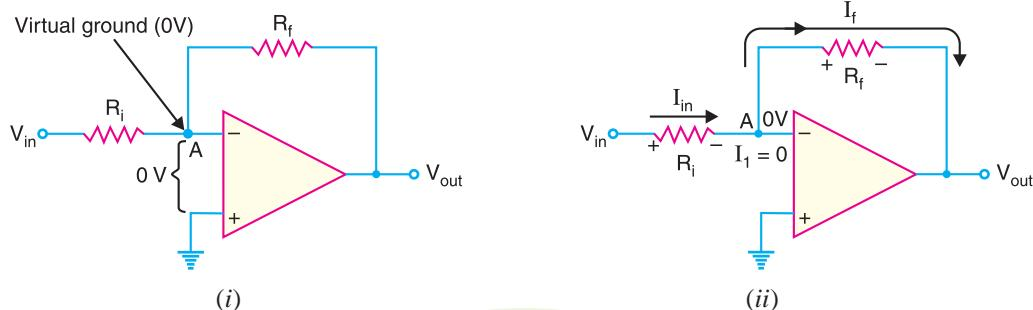

Fig. 25.47
**Voltage gain.** An *OP*-amp has an infinite input impedance. This means that there is zero current at the inverting input. If there is zero current through the input impedance, then there must be *no* voltage drop between the inverting and non-inverting inputs. This means that voltage at the inverting input (-) is zero (point A) because the other input (+) is grounded. The 0V at the inverting input terminal (point A) is referred to as **virtual ground**. This condition is illustrated in Fig. 25.47. The point A is said to be at virtual ground because it is at 0V but is not physically connected to the ground (*i.e.*  $V_A = 0V$ ).
Referring to Fig. 25.47 (ii), the current  $I_1$  to the inverting input is zero. Therefore, current  $I_{in}$  flowing through  $R_i$  entirely flows through feedback resistor  $R_f$ . In other words,  $I_f = I_{in}$ .
**(i) Input impedance.** While an *OP-amp* has an extremely high input impedance, the inverting amplifier does not. The reason for this can be seen by referring back to Fig. 25.47(i). As this figure shows, the voltage source “sees” an input resistance ( $R_i$ ) that is going to virtual ground. Thus the input impedance for the inverting amplifier is